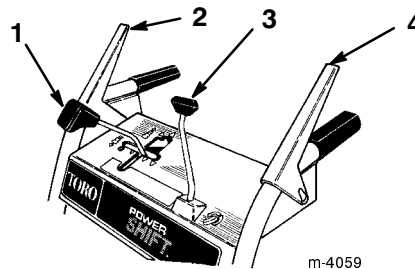

Figure 13
- **Speed Shift Control** (Fig. 13)—The control has a neutral position, four forward speeds, and two reverse speeds. It also controls the power shifting of the wheels. To select a speed, move the shift control to the desired position.
- **Auger/Impeller Drive Control Lever** (Fig. 13)—To engage both the auger and impeller, press the lever against the right handgrip. To disengage, release the lever.
- **Traction Control Lever** (Fig. 13)—To engage the traction (wheel drive), press the lever against left handgrip. To stop traction, release the lever.
- **Discharge Chute Control** (Fig. 13)—Rotate the discharge chute control clockwise to move the discharge chute to the right and counterclockwise to move the chute to the left.
- Make sure that the auger/impeller drive control lever and the traction control lever are in the *Disengaged* position (Fig. 13).
- Release the traction and the auger/impeller drive control levers (Fig. 13).
1. Release the traction drive control lever (Fig. 13).